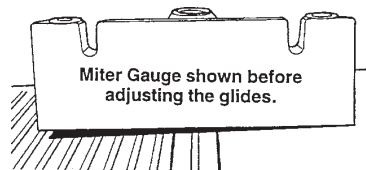

Figure C-48
46. Place the miter gauge in the worktable's miter gauge slot. See Figure C-48.